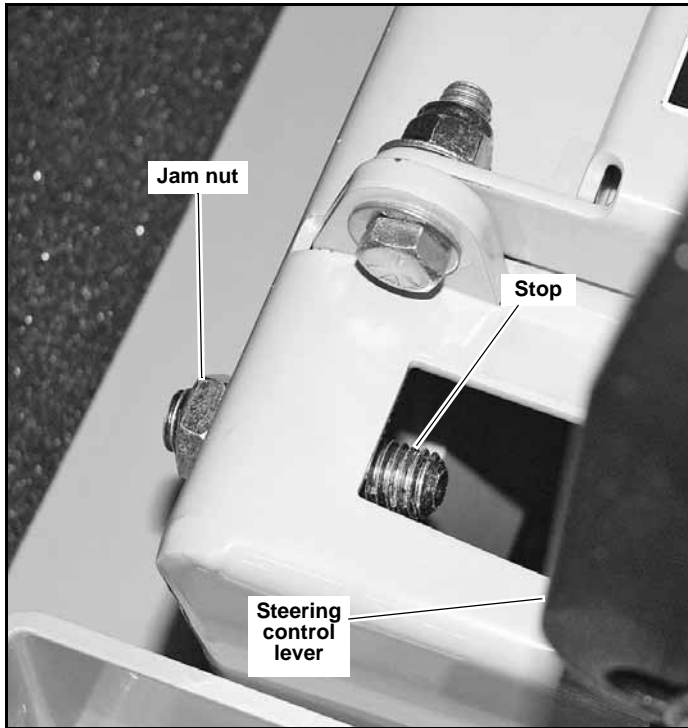

Figure 4-5
1. Determine which drive tire is rotating too fast when both steering control levers are against the stops in the control panel (see Figure 4-5).